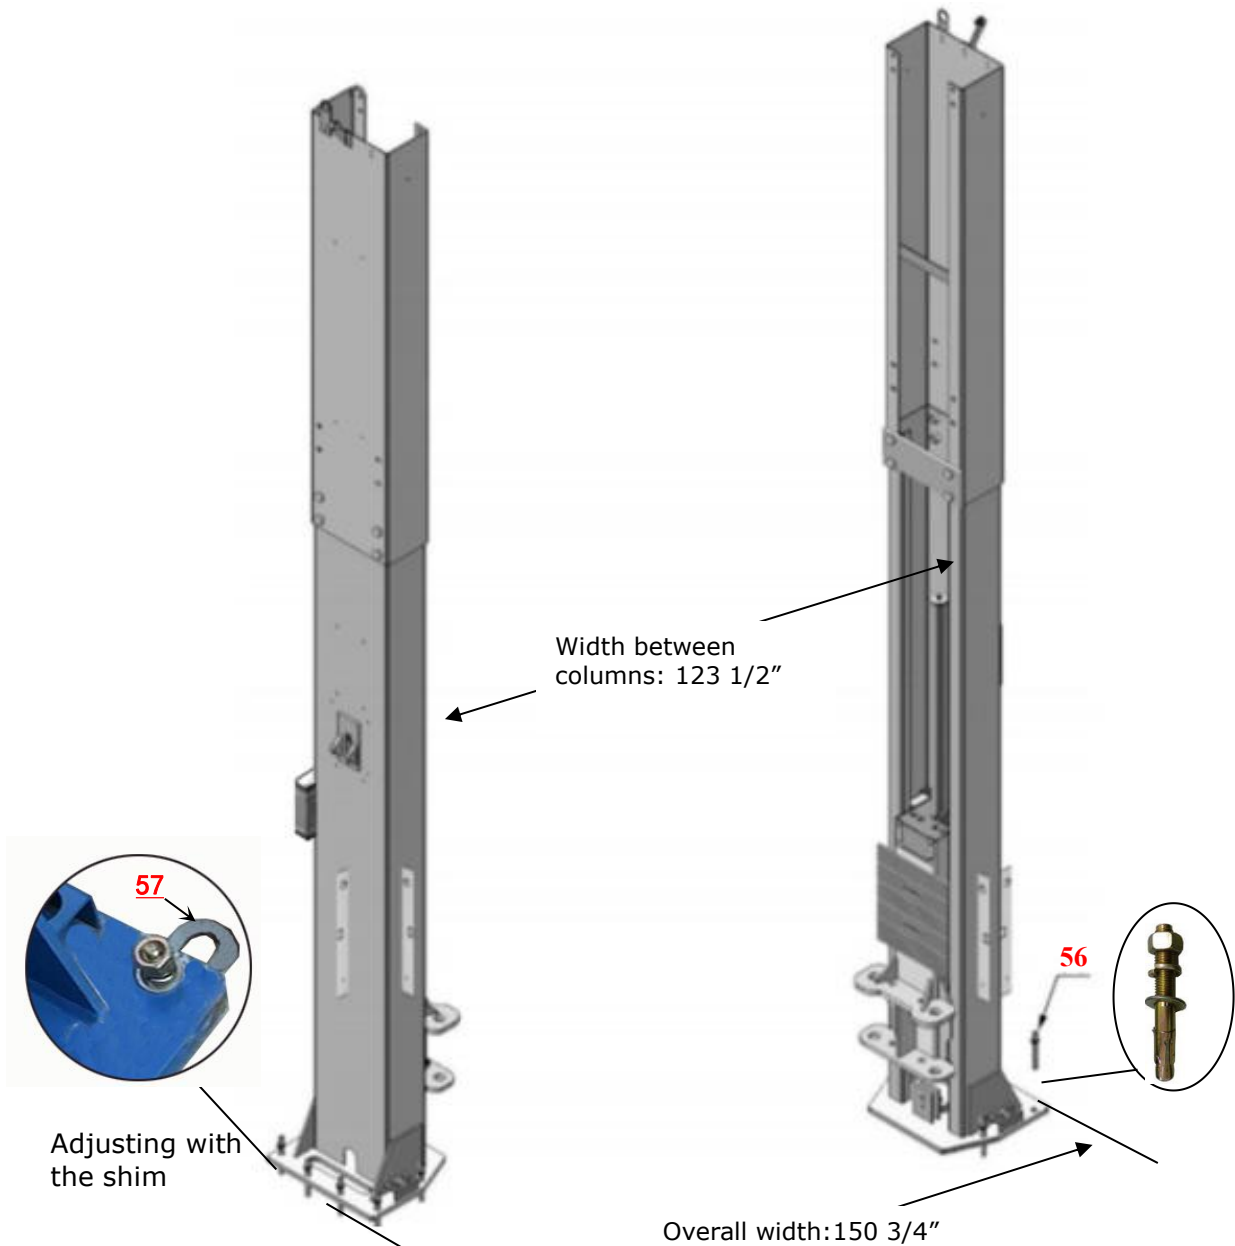

Fig. 21
G. Install anchor bolts. Position the columns on the installation layout. Check the columns verticality with level bar, and adjusting with the shim if the columns are not vertical. Do not tighten the anchor bolts at this time. (See Fig.21, Fig.22)